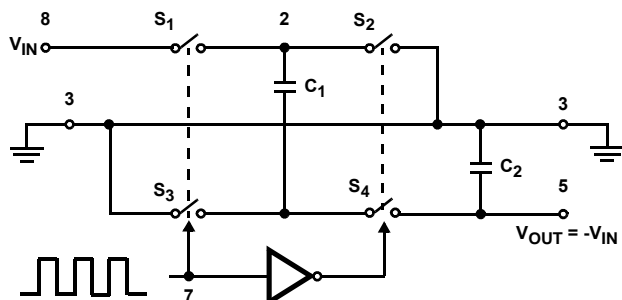
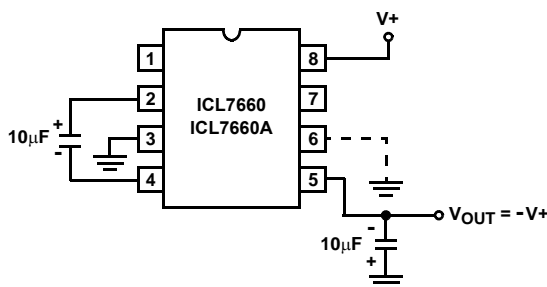

FIGURE 12. IDEALIZED NEGATIVE VOLTAGE CONVERTER
FIGURE 13A. CONFIGURATION
The ICL7660 and ICL7660A contain all the necessary circuitry to complete a negative voltage converter, with the exception of 2 external capacitors which may be inexpensive $10\mu F$ polarized electrolytic types. The mode of operation of the device may be best understood by considering Figure 12, which shows an idealized negative voltage converter. Capacitor C_1 is charged to a voltage, $V+$, for the half cycle when switches S_1 and S_3 are closed. (Note: Switches S_2 and S_4 are open during this half cycle.) During the second half cycle of operation, switches S_2 and S_4 are closed, with S_1 and S_3 open, thereby shifting capacitor C_1 negatively by $V+$ volts. Charge is then transferred from C_1 to C_2 such that the voltage on C_2 is exactly $V+$, assuming ideal switches and no load on C_2 . The ICL7660 approaches this ideal situation more closely than existing non-mechanical circuits.
In the ICL7660 and ICL7660A, the 4 switches of Figure 12 are MOS power switches; S_1 is a P-Channel device and S_2 , S_3 and S_4 are N-Channel devices. The main difficulty with this approach is that in integrating the switches, the substrates of S_3 and S_4 must always remain reverse biased with respect to their sources, but not so much as to degrade their "ON" resistances. In addition, at circuit start-up, and under output short circuit conditions ($V_{OUT} = V+$), the output voltage must be sensed and the substrate bias adjusted accordingly. Failure to accomplish this would result in high power losses and probable device latchup.
where V₁ and V₂ are the voltages on C₁ during the pump and transfer cycles. If the impedances of C₁ and C₂ are relatively high at the pump frequency (refer to Figure 12) compared to the value of R_L, there will be a substantial difference in the voltages V₁ and V₂. Therefore it is not only desirable to make C₂ as large as possible to eliminate output voltage ripple, but also to employ a correspondingly large value for C₁ in order to achieve maximum efficiency of operation.
The output characteristics of the circuit in Figure 13A can be approximated by an ideal voltage source in series with a resistance as shown in Figure 13B. The voltage source has a value of -V+. The output impedance (RO) is a function of the ON resistance of the internal MOS switches (shown in Figure 12), the switching frequency, the value of C1 and C2, and the ESR (equivalent series resistance) of C1 and C2. A good first order approximation for RO is: